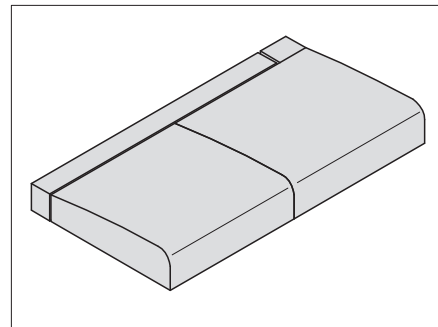
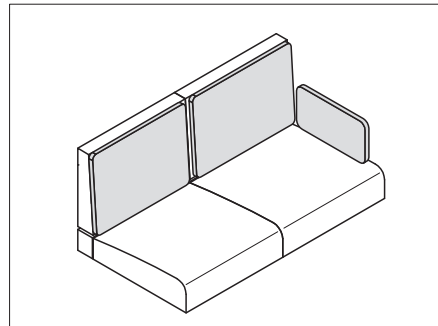

Fig. 204 Positioning seat cushions
Fig. 206 Cushion for back cushions
- Lay on the seat, backrest and additional cushions as shown in Fig. 204 to Fig. 206.